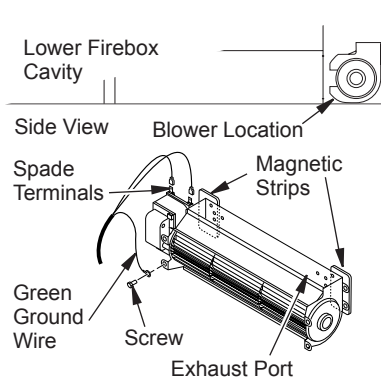

Figure 25 - Blower Model BK
1. Attach power cord to blower motor by firmly pushing two female terminals at end of power cord onto two spade terminals on blower motor (see Figure 25).
2. Attach green ground wire from power cord to blower housing using screw provided (see Figure 25). Tighten screws securely.
3. Place blower against lower rear wall of firebox outer wrapper with exhaust port directed upward. Blower will fit inside back opening and be held in position against back wall by magnets (see Figure 25).